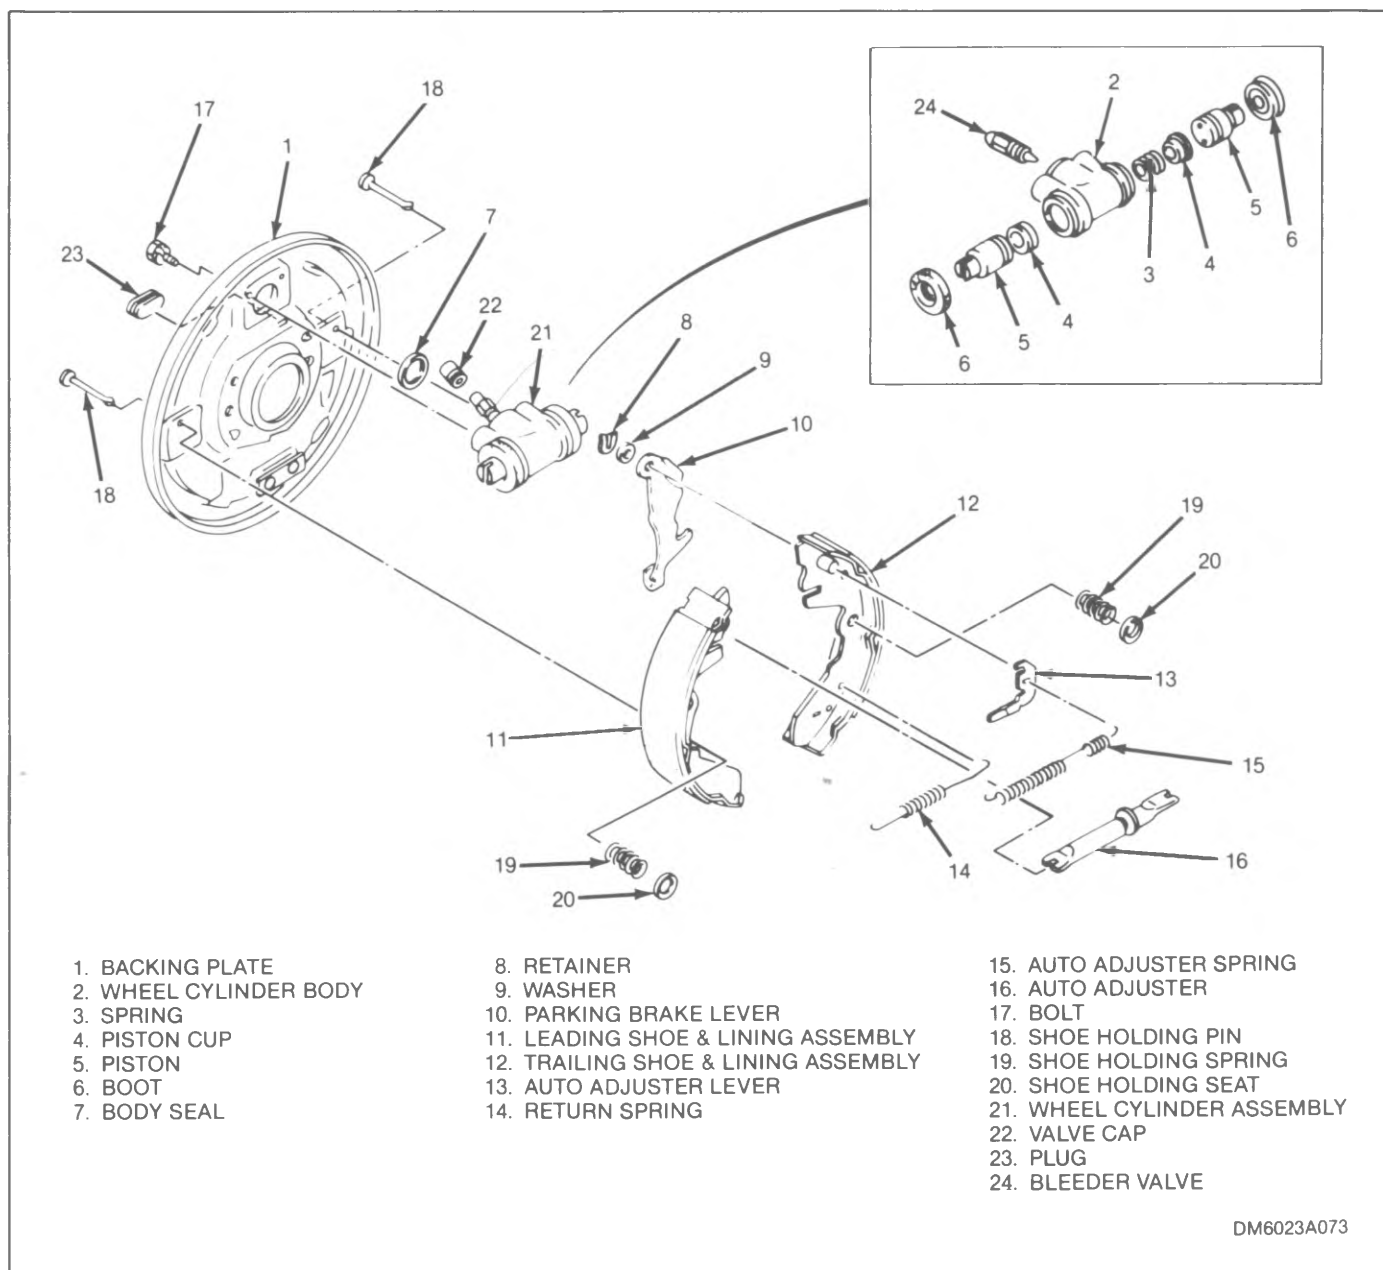

Figure 4-29. 1985-86 Spectrum Leading-Trailing Shoe Brake Parts
4-27. 1985-86 SPECTRUM LEADING-TRAILING BRAKE. Refer to figure 4-29 for identification of parts for the leading-trailing drum brake. After removing the brake drums (refer to paragraph 4-21), proceed as follows to remove and replace brake shoes and hardware:
11. Attach park brake lever (10), (see figure 4-29) to trailing shoe (12) with washer (9) and retainer (8). Connect parking brake cable to lever.
12. Install trailing shoe (12) and attach with pin (18), spring (19) and seat (20).
13. If new shoe and linings are being installed, turn star wheel on auto adjuster (16) to produce minimum adjuster length.
14. Install auto adjuster (16) and leading shoe (11). Attach leading shoe with pin (18), spring (19) and seat (20).